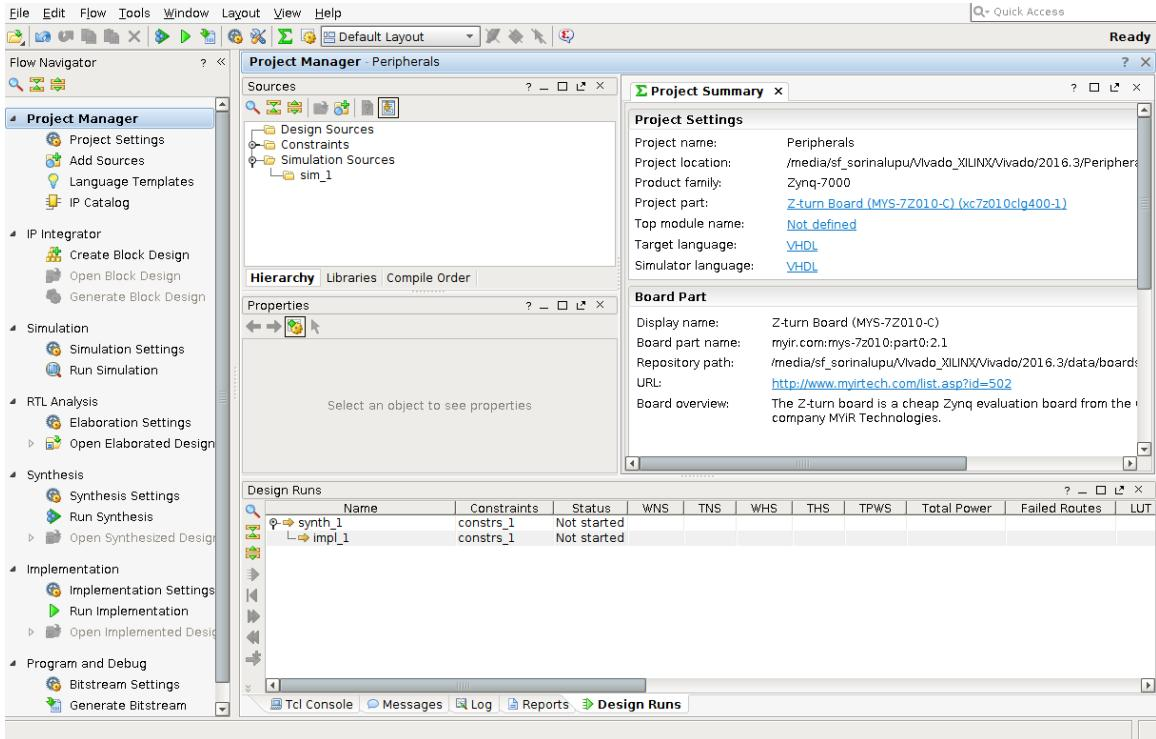

Figure 7: Project Structure
3. The **Peripherals** project should now look similar to Figure 7. In this project, we will implement the necessary files to control an RGB LED and a buzzer.